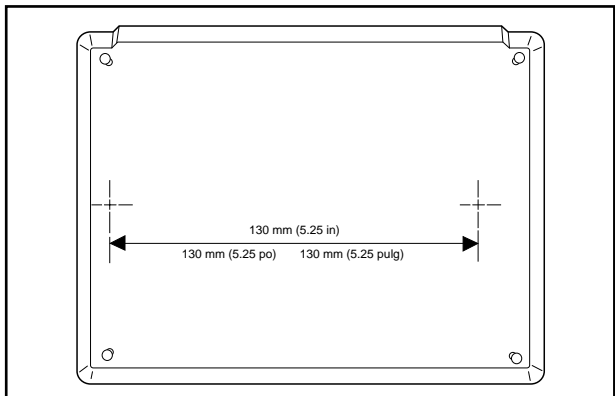

Figure 3 – Paper wall mounting template
1. Attach the paper mounting template to the wall. Make sure the template is even with the wall. See Figure 3.